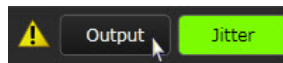

Figure 45 Enable global outputs
- 11 Enable the global outputs by clicking on the **Output** button present on the **Status Bar** as shown in Figure 45 on page -87.